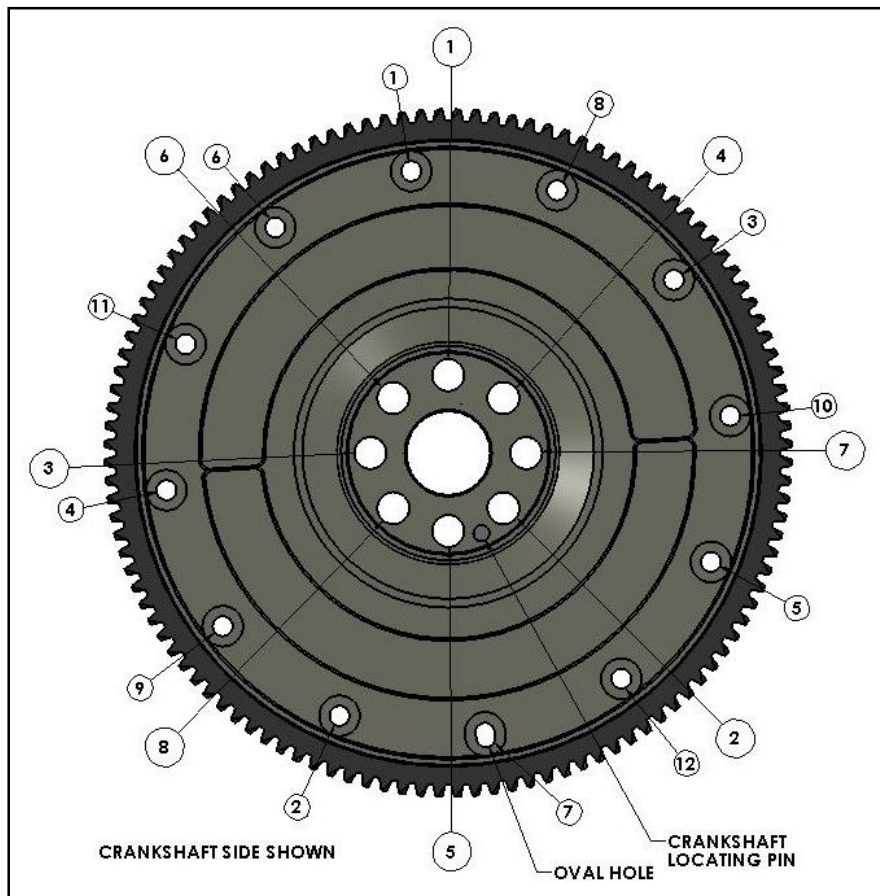

Figure 1- Torque Sequence
Use the picture below for the proper sequence when tightening all bolts to ensure even torque. *Please note that this is a multiple-step torque process!* You must be sure to complete each step before moving on to the next, without skipping or combining any steps (*Figure 1*).
1. Tighten all crankshaft bolts to **58 ft.-lbs** in proper sequence (*Figure 1*).
3. After completing step 2, again tighten all crankshaft bolts **another 60 degrees** (*once again using sequence in Figure 1*).
If you have an ATS Diesel Performance 5-Star™ Torque Converter, you will use all 12 of the holes in the flexplate's outer perimeter (using the 12 bolts that were included with the torque converter). For all other torque converters, you will only use 6 bolts, inserting one in every other hole of the Flexplate. (*Figure 1 and use torque sequence 1-5-9-3-7-11 for 6-bolt torque converters*)
Note: To further ease installation of torque converter you may rotate crankshaft until oval hole in Flexplate is visible through starter access cavity. Using the oval hole in Flex Plate as a starting point may ease Torque Converter bolt installation (*Figure 1*).
8. Using a torque wrench, tighten each bolt to **44 ft.-lbs.** using torque sequence as shown. (*Figure 1*).
9. Verify the final torque by tightening each bolt to **44 ft.-lbs.** still using torque sequence pattern (*Figure 1*).